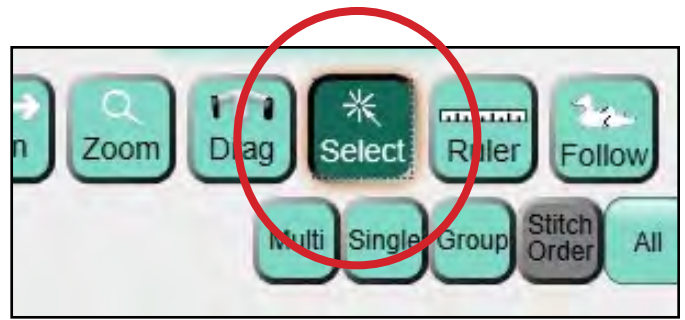

Figure 4.25
Touch the **Select** button (*Figure 4.25*) to see the options to select one or more designs in the work area. As you select different designs, the name appears at the top of the screen. The letter (D) after the name indicates that it is a Design; a (G) indicates that it is a Group; and an (R) indicates that it is a Repeat Design.